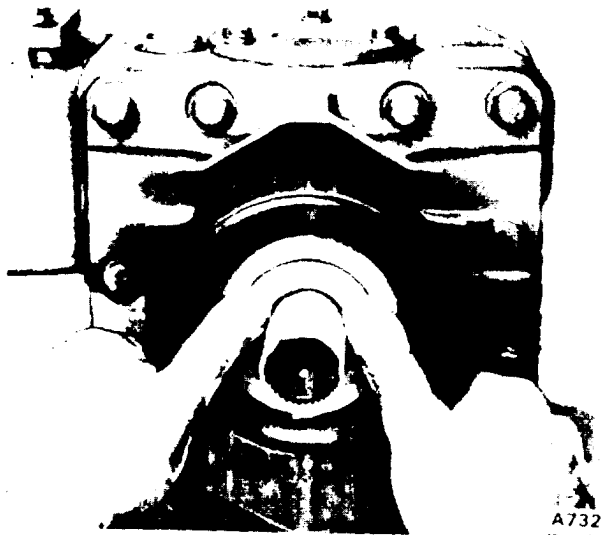

Figure 9B-16. Installing Aluminum Housing
9. Install the retaining ring with the beveled side out, putting the side opposite the tang into the pump groove first. Check that the ring has snapped into place completely (see Figure 9B-17).